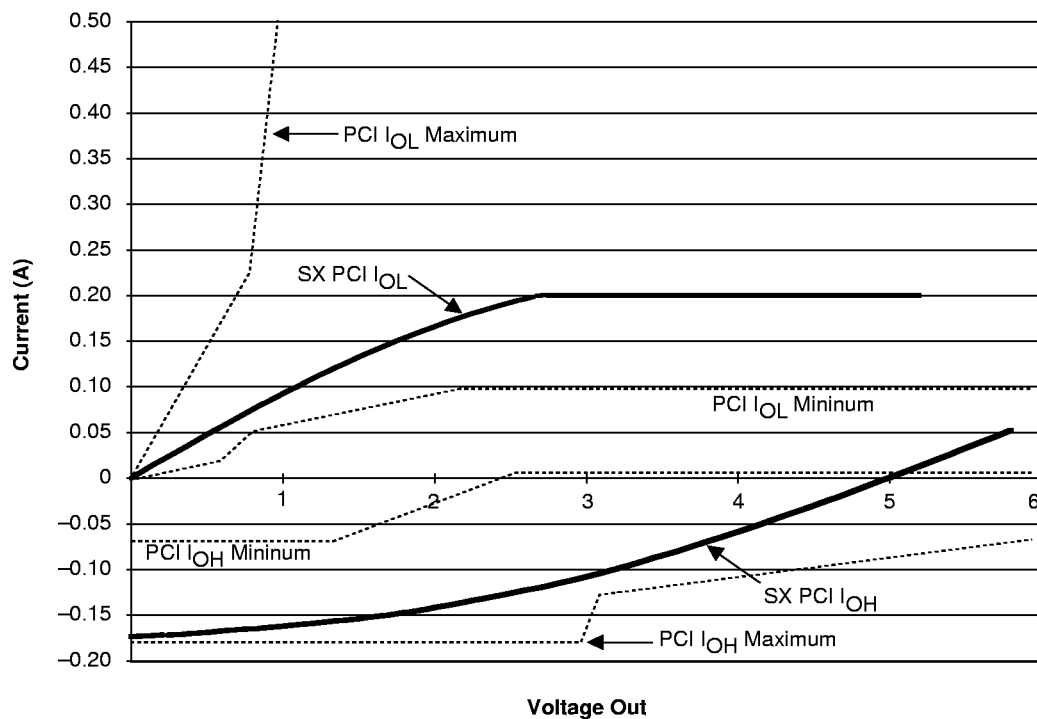

Figure 9 • 5.0VPCI Curve for SX-A Family
1. Refer to the V/I curves in Figure 9 on page 14. Switching current characteristics for REQ# and GNT# are permitted to be one half of that specified here; i.e., half size output drivers may be used on these signals. This specification does not apply to CLK and RST# which are system outputs. "Switching Current High" specification are not relevant to SERR#, INTA#, INTB#, INTC#, and INTD# which are open drain outputs.
3. Maximum current requirements must be met as drivers pull beyond the last step voltage. Equations defining these maximums (A and B) are provided with the respective diagrams in Figure 9 on page 14. The equation defined maxima should be met by design. In order to facilitate component testing, a maximum current test point is defined for each side of the output driver.
Figure 9 shows the 5.0VPCI VI curve and the minimum and maximum PCI drive characteristics of the SX-A family.